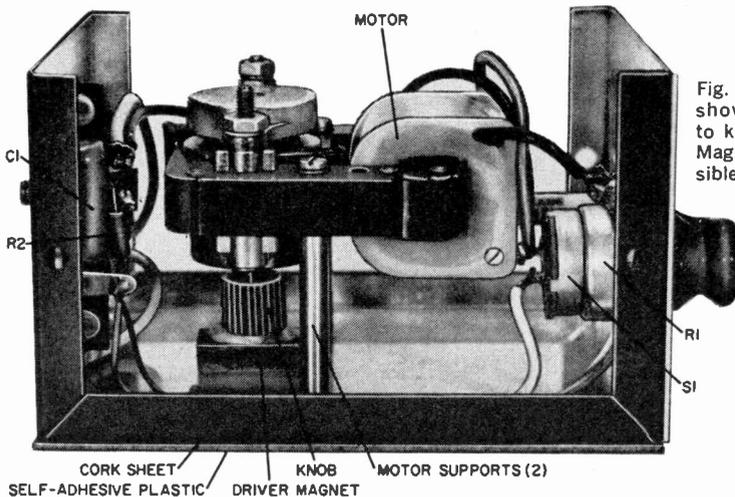

Fig. 2. View of inverted chassis shows driver magnet fixed to knob secured to motor shaft. Magnet must be as close as possible to non-magnetic frame top.
**Construction.** The motor and speed-control circuit are assembled in a 5"  $\times$  4"  $\times$  3" aluminum box as shown in Figs. 2 and 3. To get a good fit within the close confines of the box, shorten the motor shaft by approximately  $\frac{3}{8}$ ". A small knob from an old radio is used to attach the driver magnet to the motor shaft. To do this, first enlarge the hole in the knob until it is a snug fit on the motor shaft. Slide the knob on the shaft, and hold the  $\frac{1}{4}$ -inch thick driver magnet to the top of the knob. The distance from the top of the magnet to the laminations of the motor should be slightly less than  $1\frac{1}{2}$ ". Using a good quality cement, preferably epoxy, secure the knob on the shaft. Then cement the driver magnet to the upper surface of the knob taking care to center it for good balance. Place the finished motor assembly to one side and allow the cement to dry.